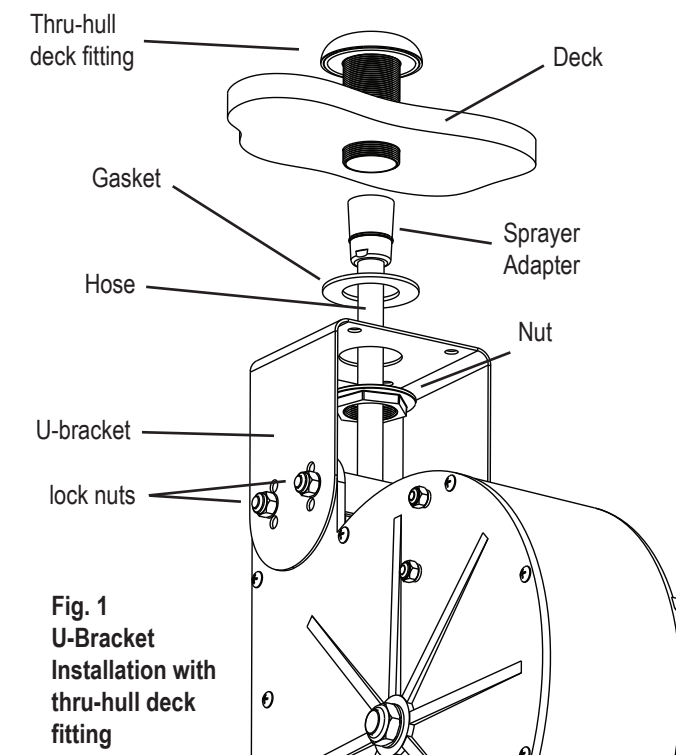

Fig. 1
1. U-BRACKET INSTALLATION (Fig. 1)